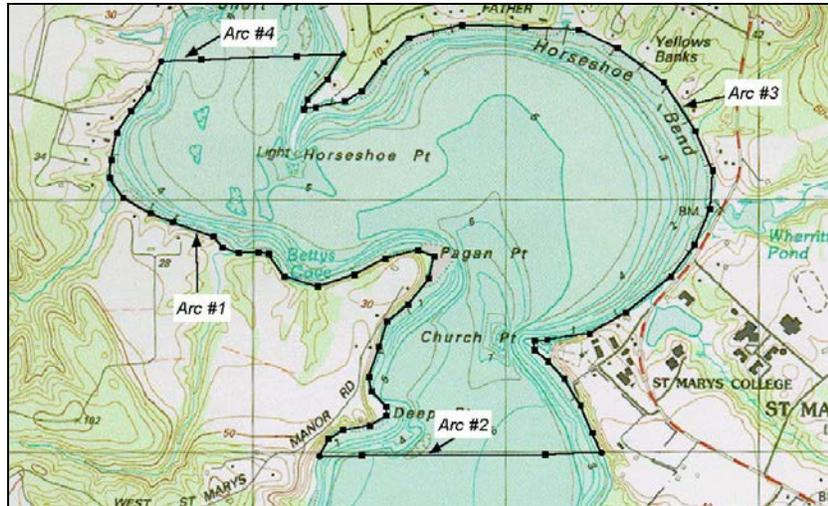

Figure 4 All feature arcs have been created.
1. In the same manner just described, create the remaining three arcs, as shown in Figure 4.
2. Click on the arc to the far left, labeled *Arc #1* in Figure 4.